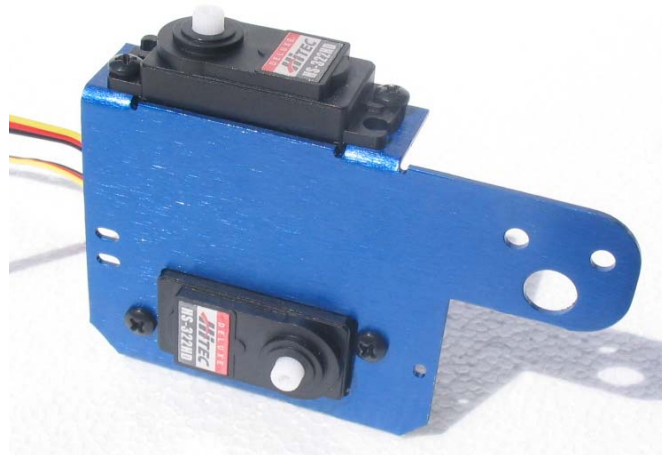

Figure 3: Servo Orientation
2. Using (2) #6 - 3/8" screws and lock washers and nuts, install the vertical servo (he servo with the riser removed earlier) to the servo holder as shown in figure 3. Complete steps 1 and 2 for the remaining servos in your kit.